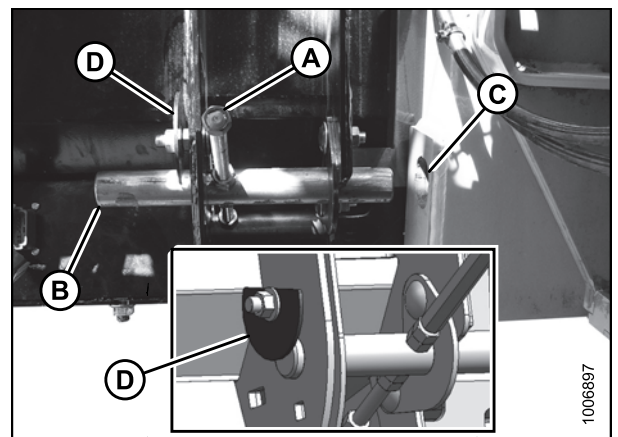

Figure 3.58: Feeder House Lock
11. Move top beam (A) according to measurement in Step 7., page 55 to achieve proper alignment of locking pin and feeder house receptacle. Refer to Figure 3.58: Feeder House Lock, page 55.